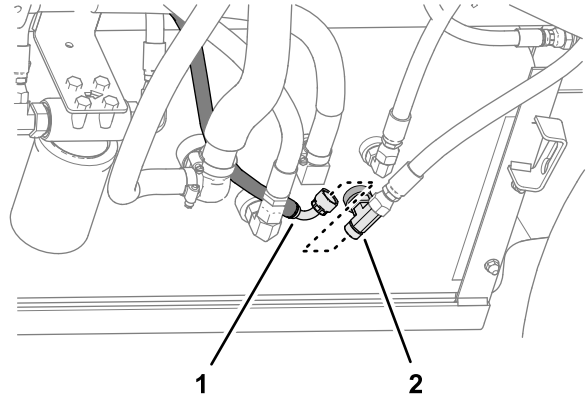

Figure 85
7. Assemble the 90° fitting of the tank-return hose 6 x 2819 mm (1/4 x 111 inches) onto the T-fitting, and tighten the hose fitting (Figure 85).